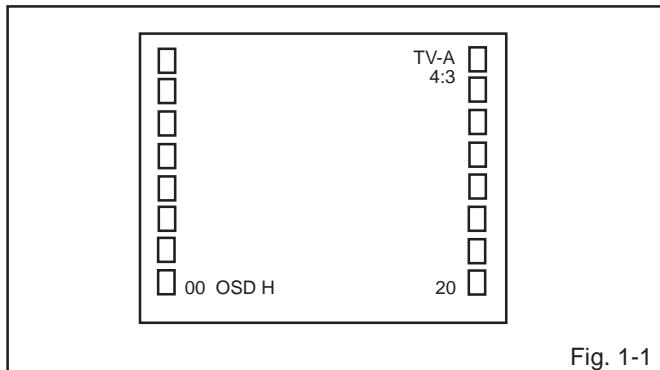

Fig. 1-1
1. In the condition of NO indication on the screen. Press the VOL. DOWN button on the set and the Channel button (9) on the remote control for more than 2 seconds to appear the adjustment mode on the screen as shown in Fig. 1-1.
4. Activate the adjustment mode display of Fig. 1-1 and press the channel button (02) on the remote control to select "CUT OFF".
4. Activate the adjustment mode display of Fig. 1-1 and press the channel button (11) on the remote control to select "R.BIAS".
4. Activate the adjustment mode display of **Fig. 1-1** and press the channel button **(29)** on the remote control to select "BRI. CENT".
3. Activate the adjustment mode display of **Fig. 1-1** and press the channel button **(33)** on the remote control to select "CONT.MAX".
4. Activate the adjustment mode display of **Fig. 1-1** and press the channel button **(38)** on the remote control to select "TINT".
4. Activate the adjustment mode display of **Fig. 1-1** and press the channel button **(35)** on the remote control to select "COL.CENT".